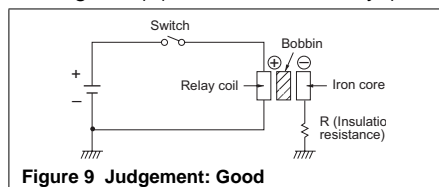

Figure 9 Judgement: Good
- Insert the contacts (or switch) in the ⊕ side of the power source. (Refer to Figure 9) (Common to all relays)